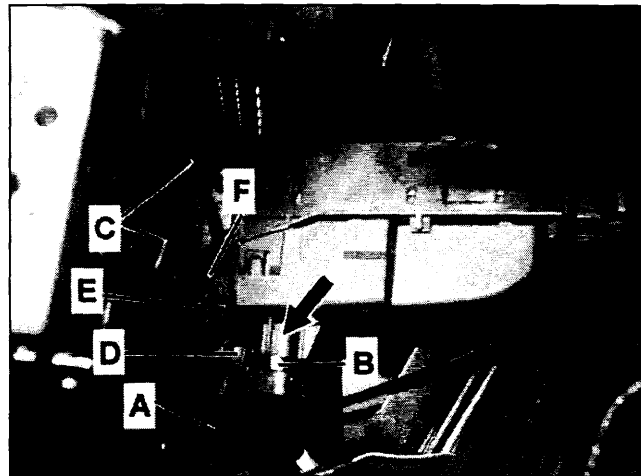

Figure 17
17. Secure SBC wiring harness (A, Figure 17) (excluding ground wires) to the SBC connector cover receptacle (arrow) using a new cable tie (B).